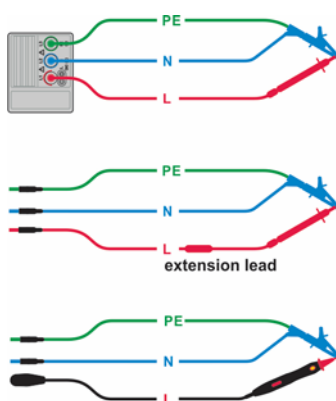

Figure 5.16: Examples of connections for nulling
- **Connect** the test leads to the instrument and short the test leads together as shown (see Figure 5.16:).